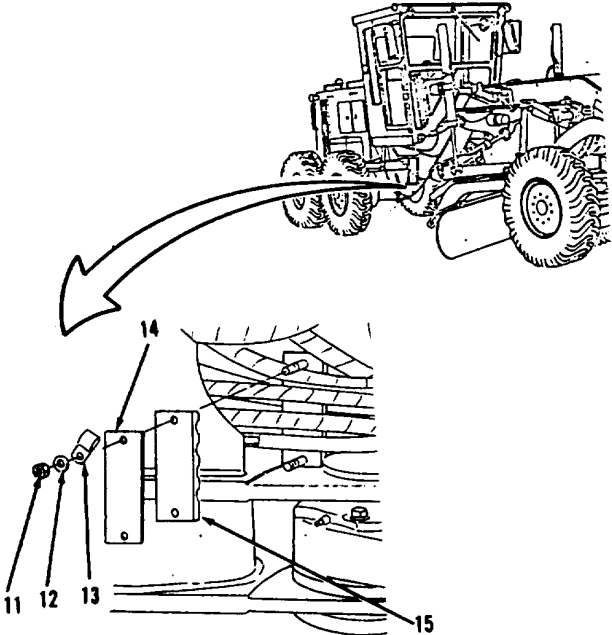

Figure 16-3.
3. Remove two nuts (11), washers (12), clip (13), plate (14) and clamp (15, Figure 16-3) from under right, front side of engine compartment.